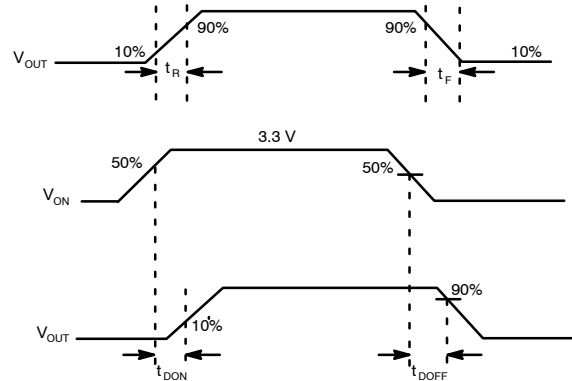

Figure 21. Timing Diagram
4. t_{DON} / t_{DOFF} / t_R / t_F are defined in Figure 21.